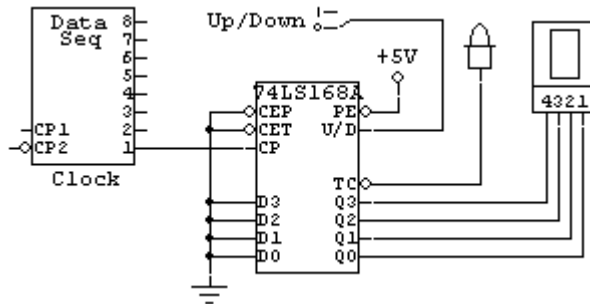

Figure 3.24. BCD Counter Circuit.
- 3 Draw the circuit shown in Figure 3.24 using the following devices: